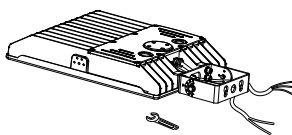
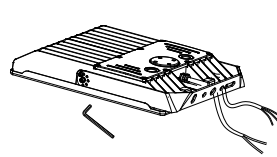

Figure 8
Figure 9
Step 2: Fix the bracket. (Figure 8)
4. FLOOD MOUNTING (FM)
Step 1: Take out the bracket; let the input wire go through the cover or the back cover of the light, then fix the cover and tighten the screws, fix the bracket on the fixture. (Figure 9)